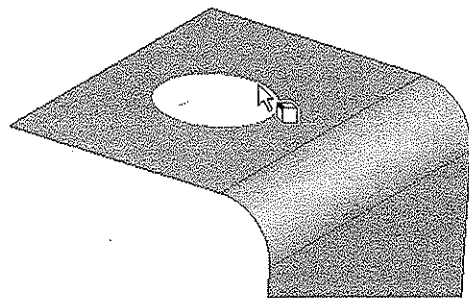

Figure 8-57 Partial view of the model with the circular edge selected
4. Select the circular edge, as shown in Figure 8-57.